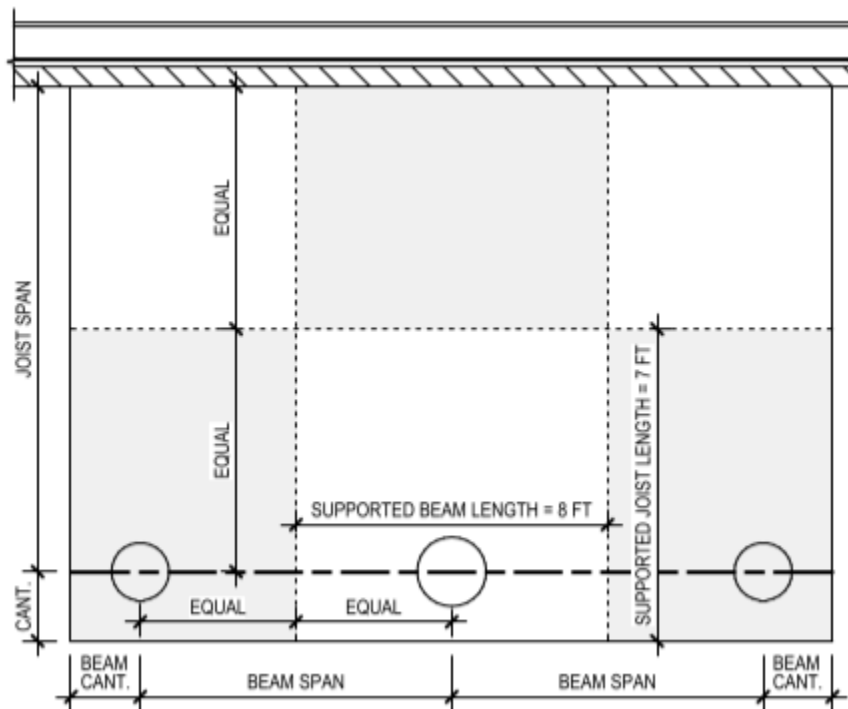

Figure 1 - Deck Detail
*Supported Length means half the sum of the joists supported by the beam & ledger board plus any cantilever (see Figure 1)
Built-up beams shall have not less than 3.5" (89mm) of bearing and be fully supported over their width. Maximum beam cantilever is 12" (Refer to Figure 1)